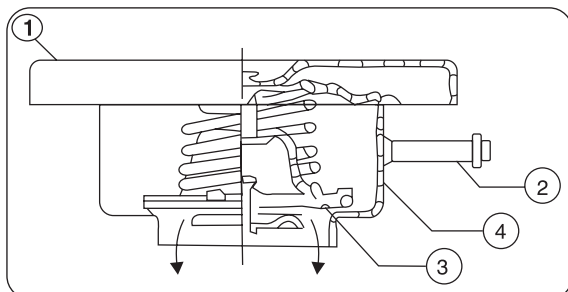

Fig. 1B - Operation of the vacuum release valve
- d) The Cap also has a vacuum release valve which relieves vacuum created when the engine is cools and coolant temperature drop. The Valve opens and equalises the System Pressure with atmosphere via, overflow tube of the filler neck (see fig 1B).